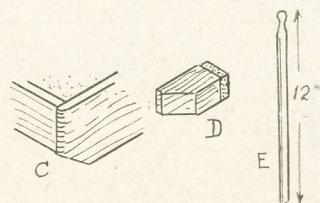

Fig. 4—Tip and cue
At point (A) on the board, a tempered steel pin can be driven in, failing the pin, a block of wood, $\frac{3}{8}$ in. wide and $1\frac{1}{4}$ ins. long, shaped as at (D) in Fig. 4, can be substituted. This is glued in position, and has a piece of thickish rubber glued to its upper end to act as a spring, pitching the ball forward for its run down the board.
For the game 12 steel balls will be needed, $\frac{3}{8}$ in. diameter, and a cue. The latter is sketched at (E) in Fig. 4, and can be easily shaped up from a length of $\frac{1}{2}$ in. round wooden rod.